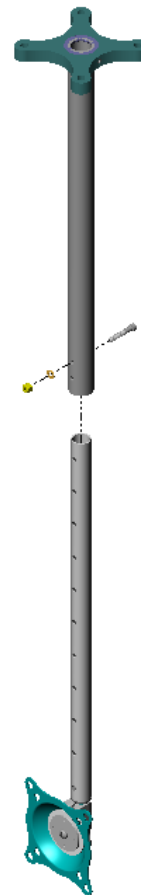

Figure 2. Mount on Outer Column
5. Install the inner column into outer column at desired height and secure using socket head cap screw, Nylon washer, and lock nut (see Figure 2).